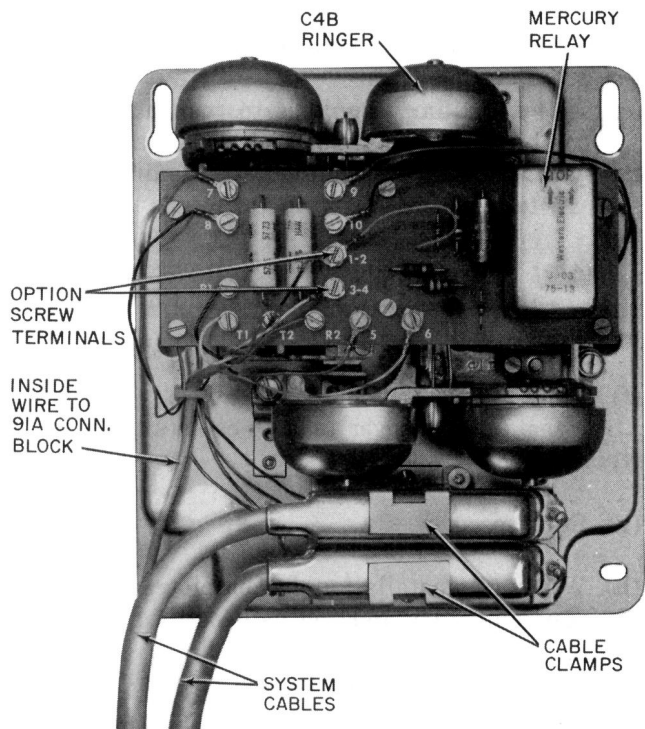

Fig. 29—♦24B Apparatus Unit♦
3.41 ♦ Locate the apparatus unit (Fig. 29) near the telephone where power failure ringing is required. Remove the cover and mount the base pan assembly on a vertical surface so that the mercury relay on the wiring board is in a vertical position as indicated by the arrows on the relay can.